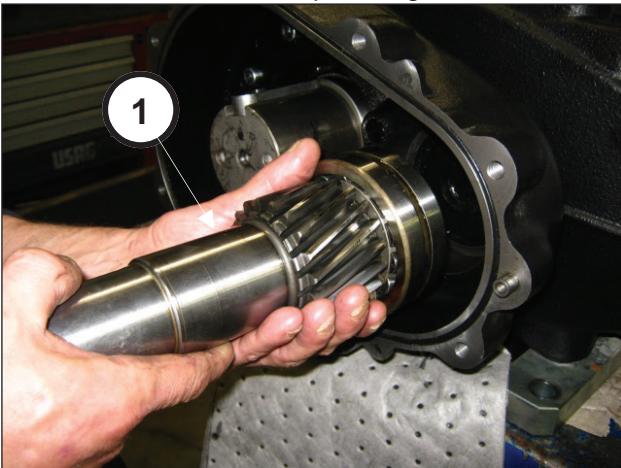
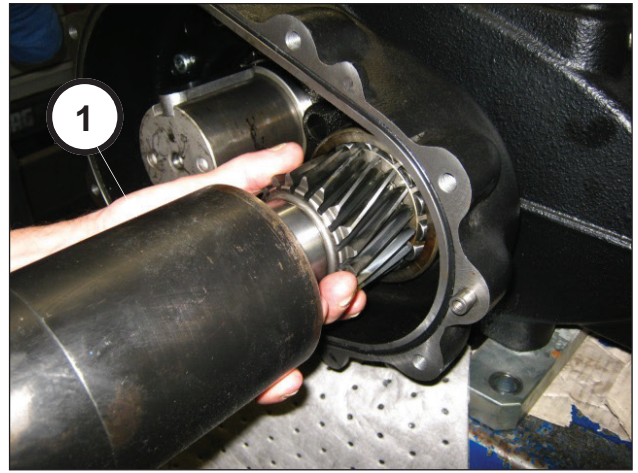

Fig. 63
Fig. 64
Assemble the pinion unit in the reduction gear box (pos. ①, Fig. 63) and insert it in the housing using the tools code 27887200 and code 27887300 (pos. ①, Fig. 64).